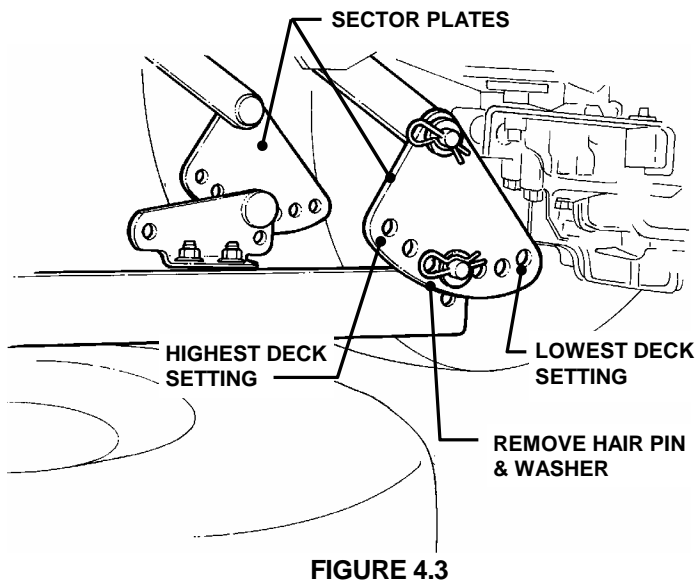

FIGURE 4.3
1. Remove hair pins and washers securing sector plates to rear lift arms. See Figure 4.3.